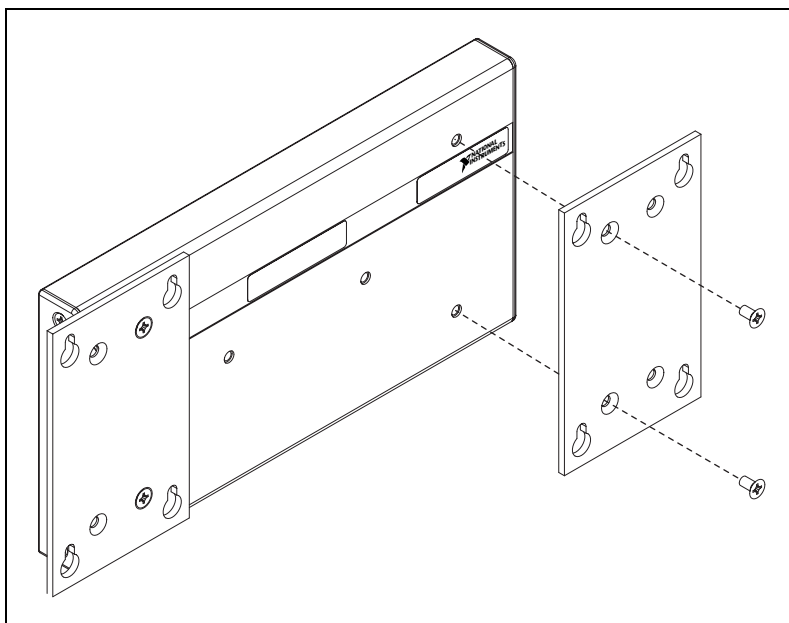

Figure 2-4. Fastening the Panel-Mount Plates to the cFP-BP-4 Backplane
1. Fasten the two plates of the panel-mount kit to the back of the cFP-BP-*x* using a number 2 Phillips screwdriver and the 8-32 $\times$ 5/16 in. countersink screws shipped with the kit. These screws have a nylon coating to prevent them from loosening. Refer to Figures 2-4 and 2-5.